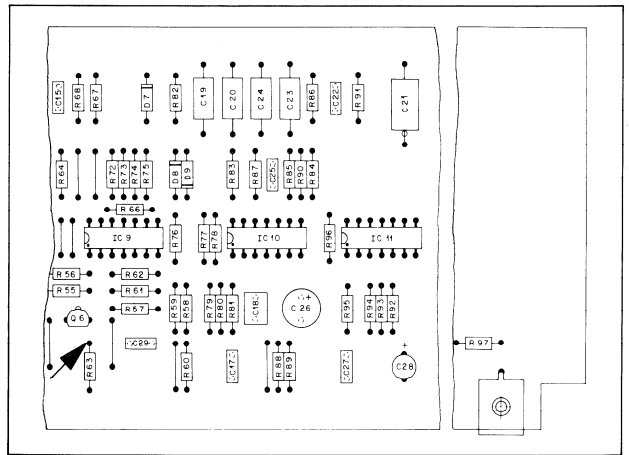

Fig. 4.15
- Connect DC voltmeter (range 1.5 VDC) to R63 on SERVO 2 PCB (see arrow in Fig. 4.15).